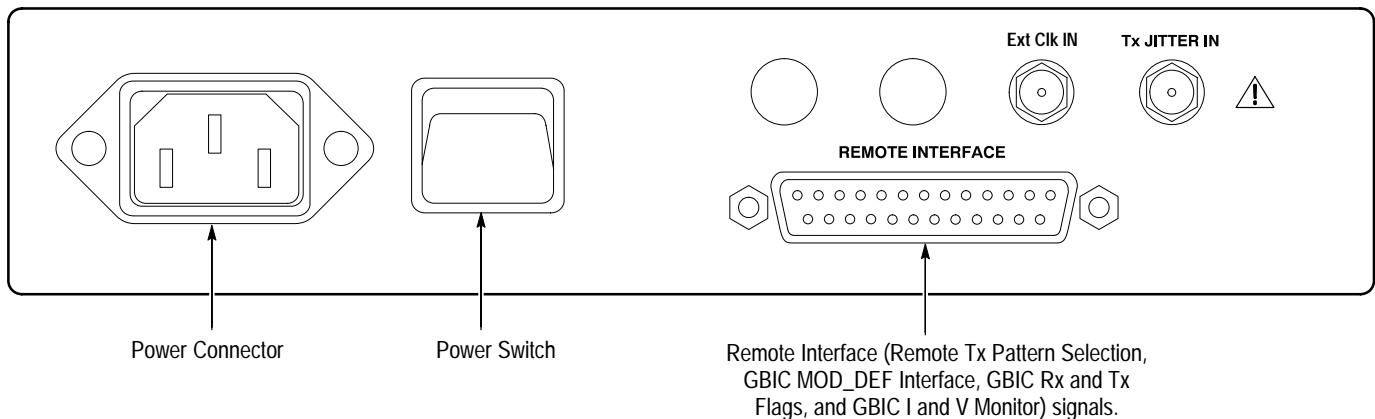

Figure 6: Rear Panel of GTS1250
5. Connect the proper power cord from the rear-panel power connector (see Figure 6 on page 16) to the power system.
Power on To power on the GBIC Test System, push the rear-panel power switch to toggle it on (see Figure 6).
The rear panel is shown in Figure 6. The rear panel contains the power connector, the power switch, the Ext Clk Input connector, the Tx JITTER INPUT connector, and the REMOTE INTERFACE connector.
I Overload. If a +5 V current overload exists in the GBIC receptacle (see *GBIC Receptacle Supply Specifications* starting on page 36), this rear-panel flag is high (see figures 6 and 7) and the GBIC Test System shuts down the GBIC VDD supply and makes the front-panel I Overload indicator blink. The GBIC Test System turns the GBIC VDD +5V supply back on after the overload is removed (such as uninstalling a shorted GBIC) and the GBIC Overload RESET button is pressed or the REMOTE INTERFACE Overload RESET signal is pulsed low.